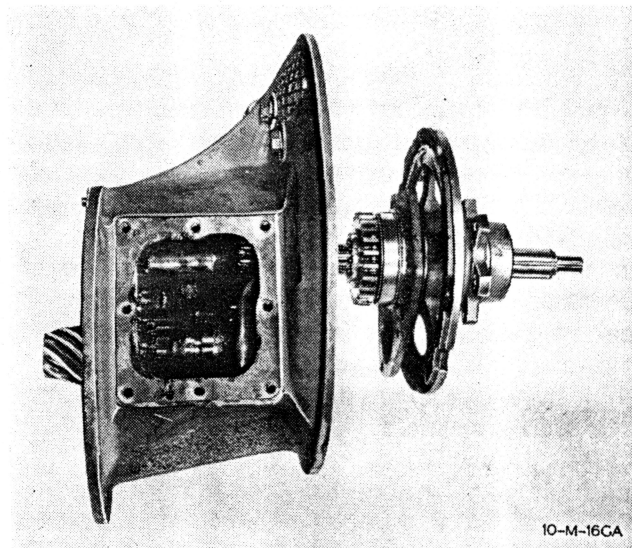

Fig. 135
(See Fig. 135)
3. Remove mainshaft rear nut (3). Quill shaft and mainshaft assembly can now be pulled from transmission case. See Fig. 135.
4. Reach into transmission case and lift out mainshaft high range gear (12), mainshaft gear spacer (11), and mainshaft low range gear (10).
5. Remove mainshaft rear bearing retaining ring and mainshaft rear bearing (4) from transmission case (5).
INSTALLATION (See Fig. 135)